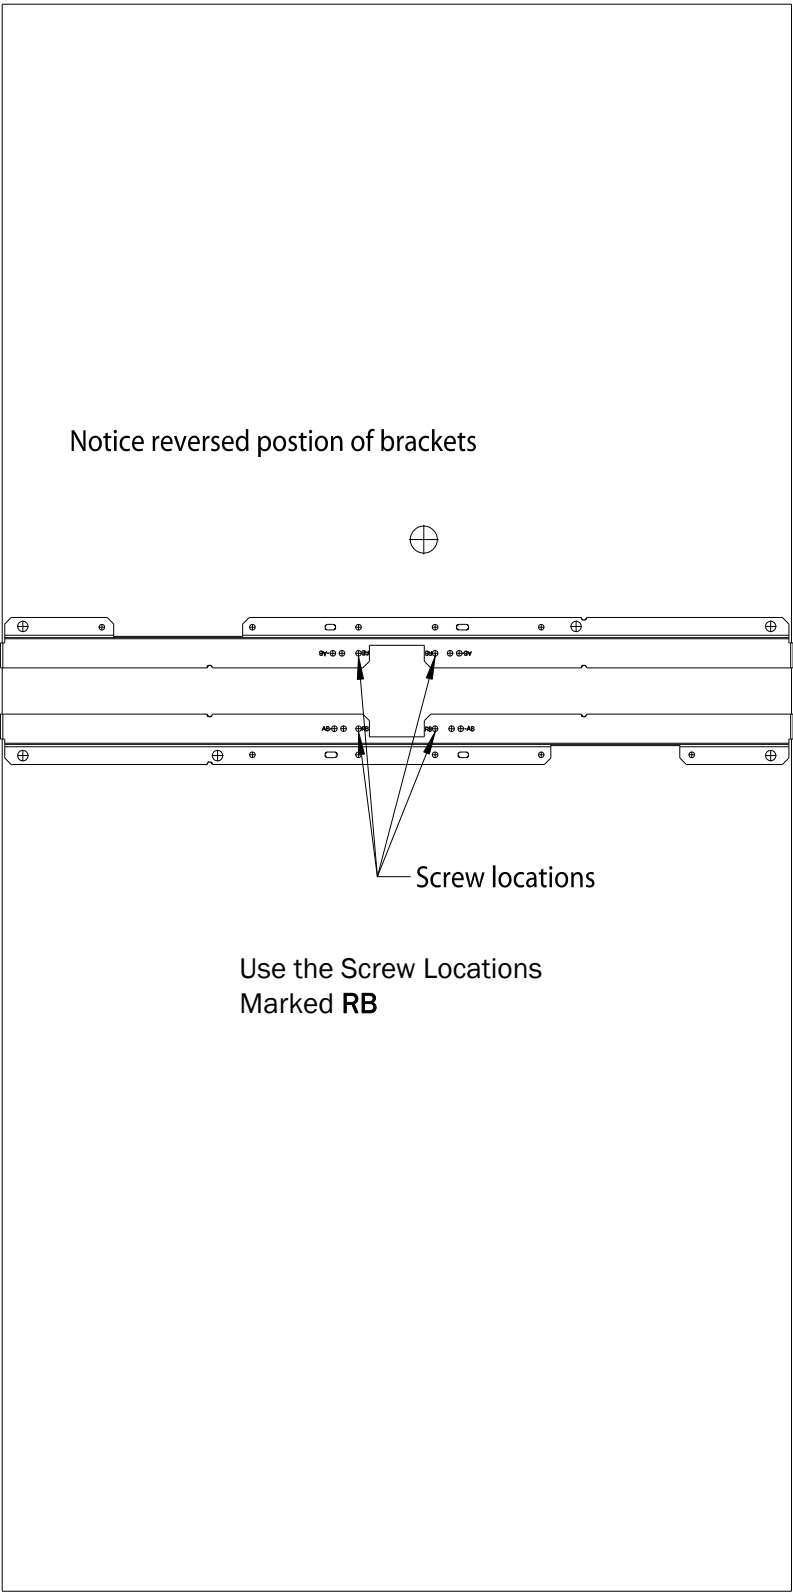

Figure 2-17: RA Below Ceiling Tile Mounting Rail Screw Locations
4. Mark the location of the **RB** screw holes in the mounting rails on the ceiling tile where the holes will be drilled through the tile as shown in Figure 2-17. Drill four 0.25-inch (6 mm) diameter holes in the ceiling tile.